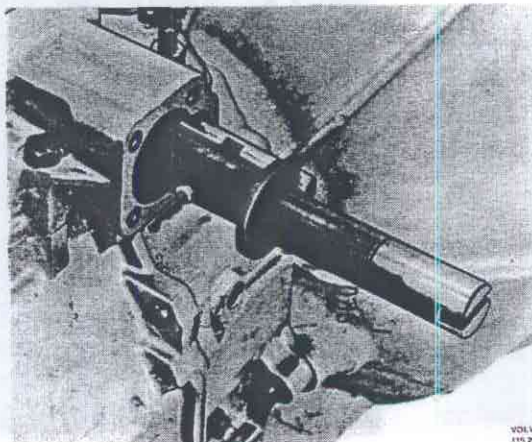

Fig. 43-50. Selector shaft with lock shaft
8. Pull out the selector shaft and remove the lock shaft, Fig. 43-50.